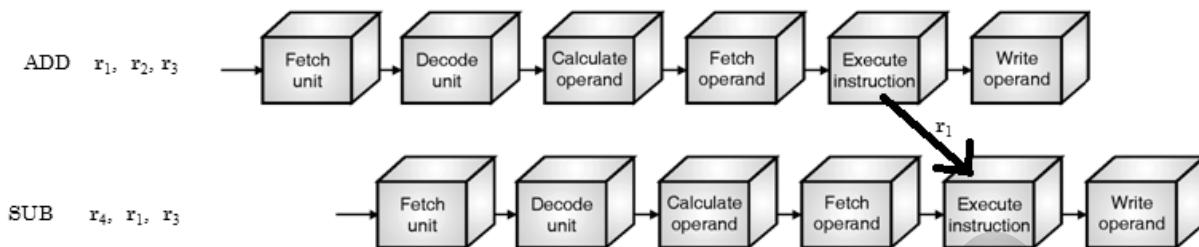

Fig. 10.9.1 : Operand forwarding mechanism in pipelining for resolving a data hazard
- In this case the ALU stage or the execution stage of the pipeline will forward the data to the next instruction as shown in the Fig. 10.9.1. Fig. 10.9.1 assumes that the system is 6 stage pipelined system.
- As shown in Fig. 10.9.1 the data i.e. the value of register r₁ is passed from the first instruction to the second instruction. Actually the value of the register r₁ is updated by the write operand stage of the first instruction. But, before that the same is required by the execute stage of second instruction. Hence the value of this register is passed to the second instruction.